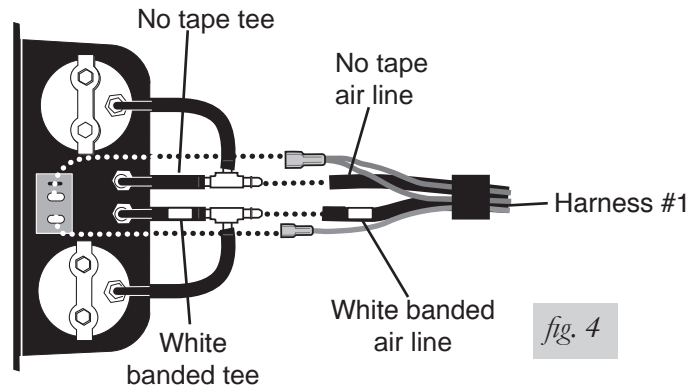

fig. 4
All of the electrical connections are matched by male-to-female push-in terminals. All of the air line connections will be white- to-white, no tape-to-no tape, indicated by the color band. The color band also serves as a reference point for installing the air line into the fitting. Properly installed, the front edge of the color band should be against the collar of the fitting (fig. 4 and 5).
- c. Push the air lines onto the "T" fittings until the air line completely covers the barb (fig. 4). Lubricating the air line will ease pushing the air line over the barb.